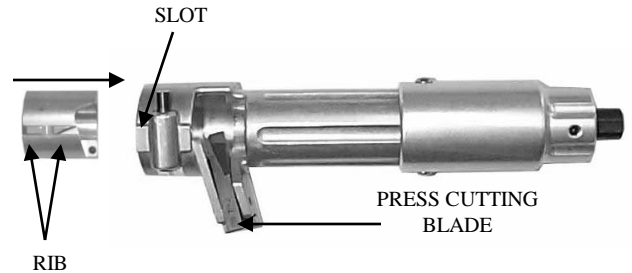
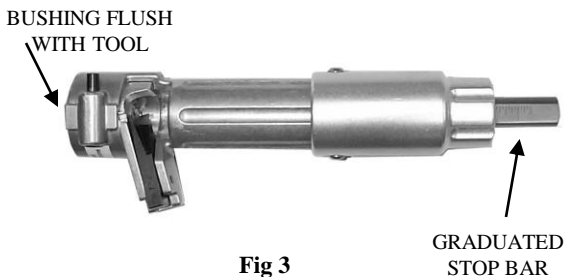

Fig. 2
Fig 3
Step 2 (Fig. 2) To insert the bushing into the WS5B, line up rib on the bushing with the slot on the WS5B housing. Raise the cutting blade by depressing the outer end and insert the bushing until it locks into place. The bushing should be flush with the end of the tool (see Fig. 3).
Step 3. (Fig. 3) To adjust the stop bar for desired length of conductor exposure, loosen set screw located on the underside of the graduated stop bar on the tool body. Adjust the stop bar to the desired length of exposed conductor needed and tighten the set screw.